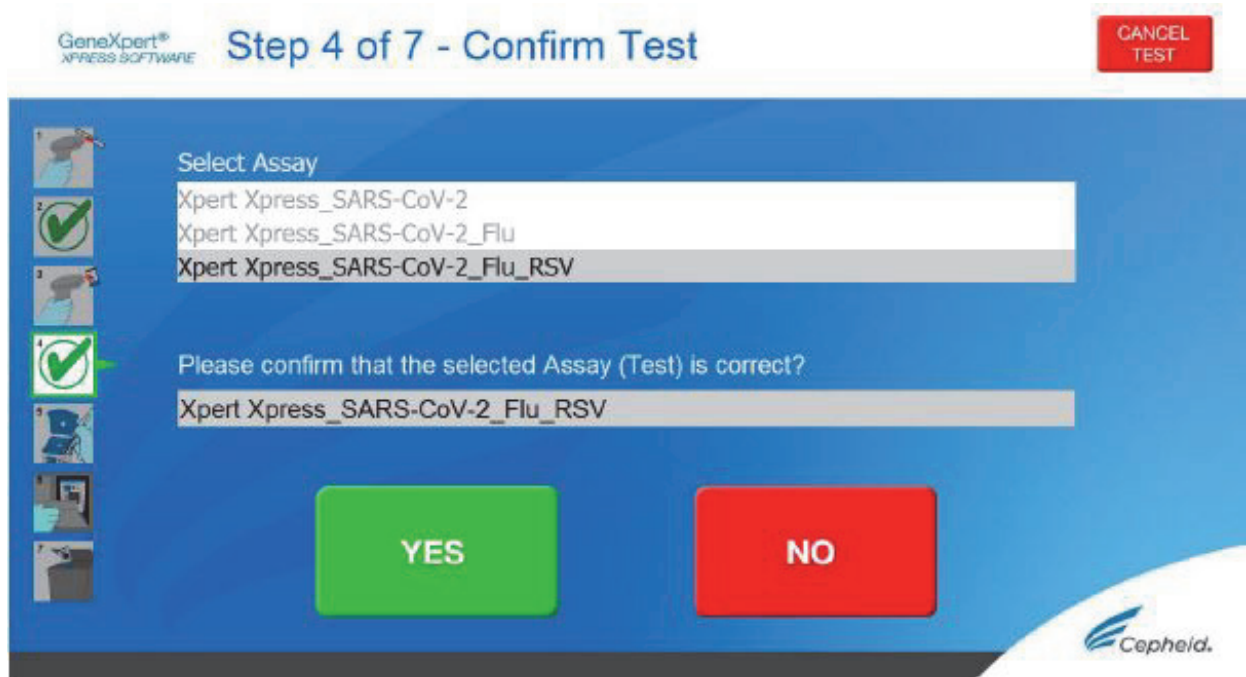

Figure 8. Confirm Test Screen - Select Assay
3. Make the appropriate selection from the Select Assay menu, as shown in Figure 8.